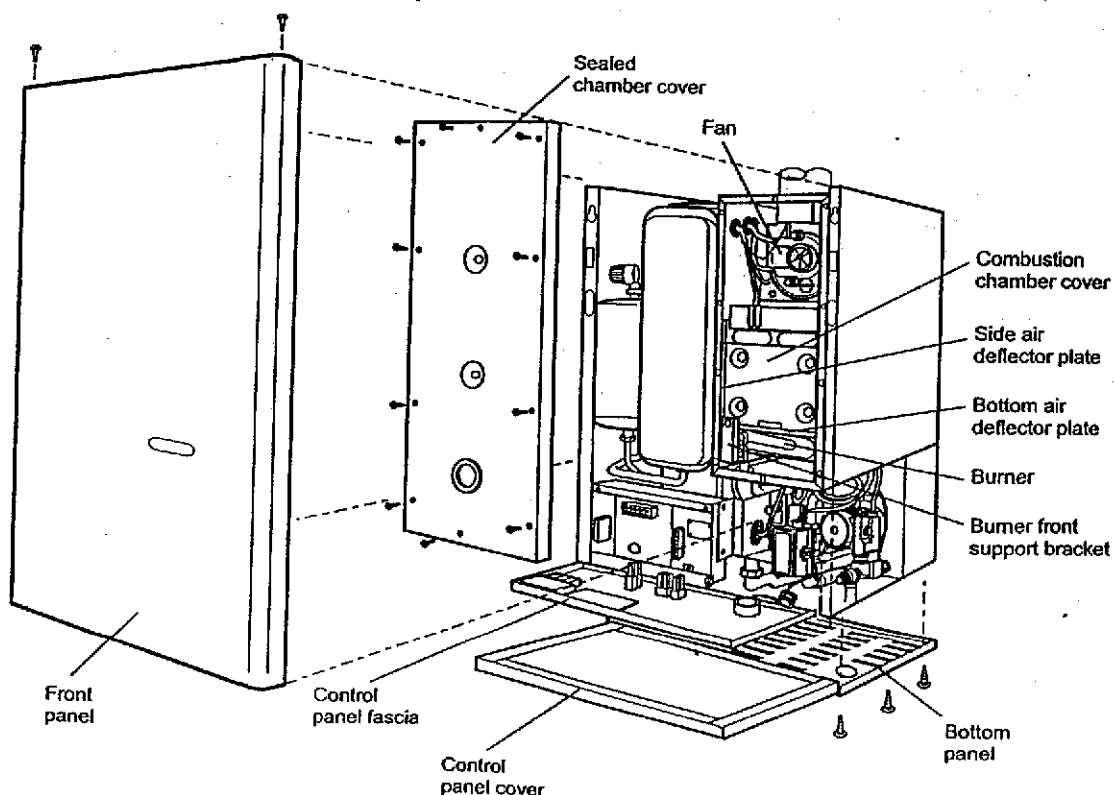

Fig. 16
7.2 DISMANTLING PRIOR TO SERVICING (See Fig. 16)